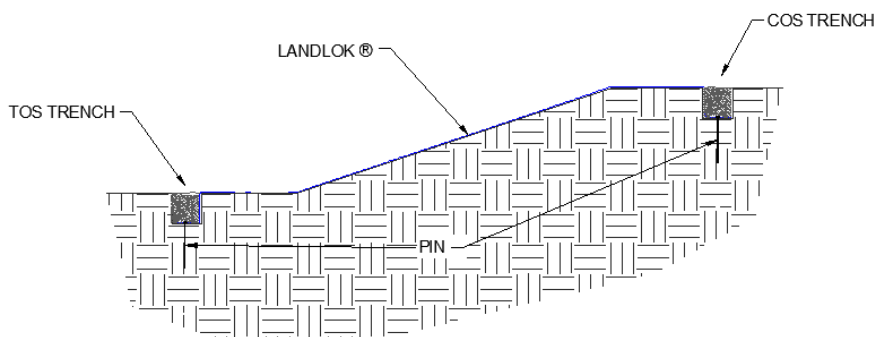

**Figure 10: Simulated Check Slot**
- For slope lengths greater than 45 ft (13.7 m), install simulated check slots. This method includes placing two rows of pins 12 in (300 mm) apart on 12 in (300 mm) centers at 45 ft (13.7 m) maximum intervals or across the midpoint of the slope for slope lengths less than 60 ft (18.2 m) (Figure 10).